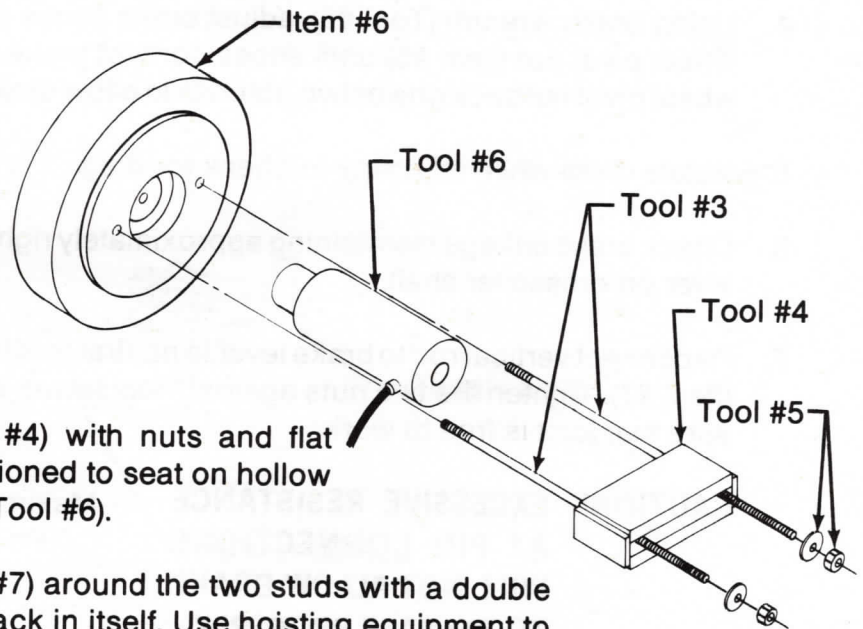

Fig. 27
1. Rotate drum until tapped holes in hub are horizontal, Fig. 27.